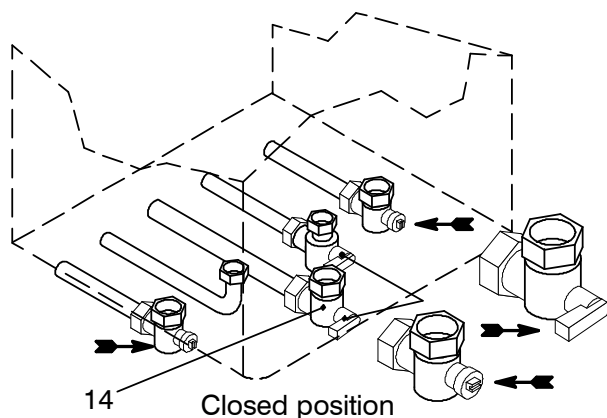

Fig. 2.13
- 2 Shut off the gas supply cock 14 and the valves for the water circuits fitted under the boiler (Fig. 2.13).